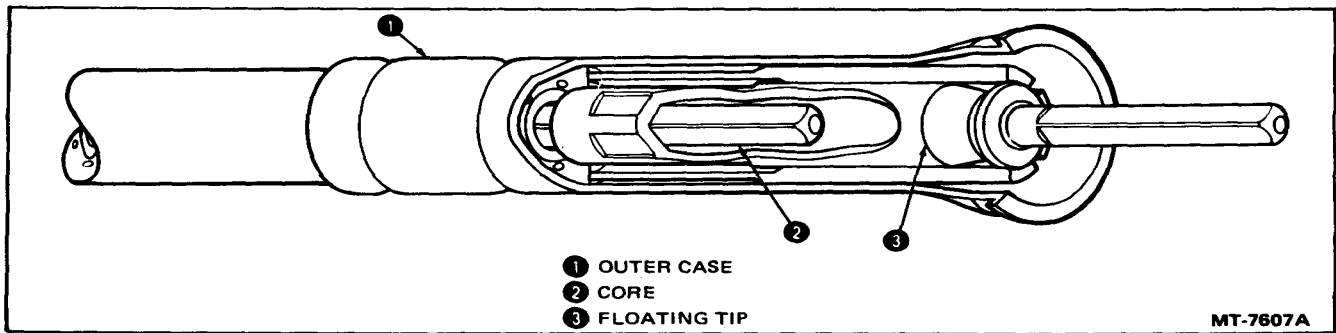

Figure 14 Semi-Rigid Cable End Details
- (1) An outer case assembly with nut and ferrule at lower end and a quick-disconnect ferrule at upper end.
- (2) A wire-wound flexible inner core assembly with squared drive at upper end and floating tip (Figure 14) at lower end.